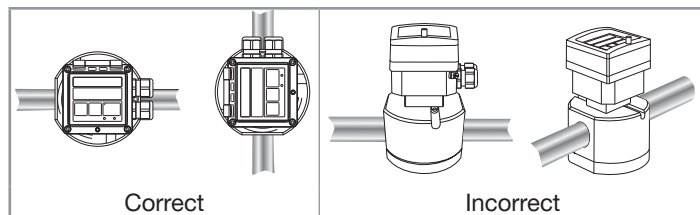

Fig. 8: The axis of the oval gears must be horizontal
- the axis of the oval gears are set horizontally, as shown in Fig. 8.